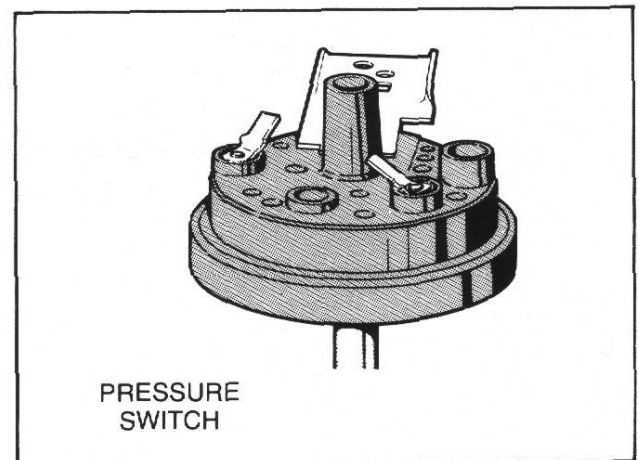

Figure 54
**51. PRESSURE SWITCH** (Refer to Figure 54)